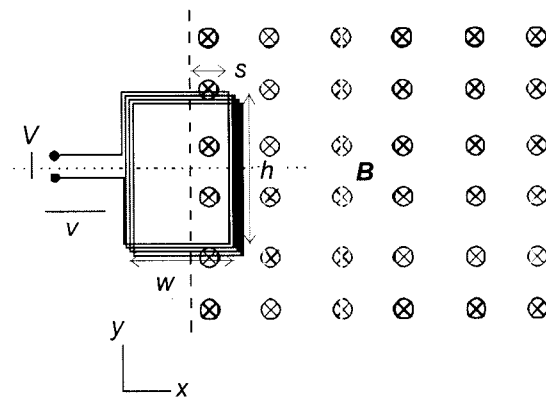

Figure 5.1
5. a) A rectangular coil of N turns, having dimensions $w \times h$, moves into a magnetic field at a constant velocity v , as illustrated in Figure 5.1. The flux density is uniform with a value B up to a boundary, beyond which it is zero, and is perpendicular to the plane of the coil. The terminals of the coil are open circuit as shown. The distance $s(t)$ indicates the distance to which the coil has extended into the field region. For $N = 20$, $w = 5$ cm and $h = 8$ cm, $B = 2$ T, $v = 2$ m/s, and $0 < s < 5$ cm, calculate the voltage generated across the output terminals. [8]